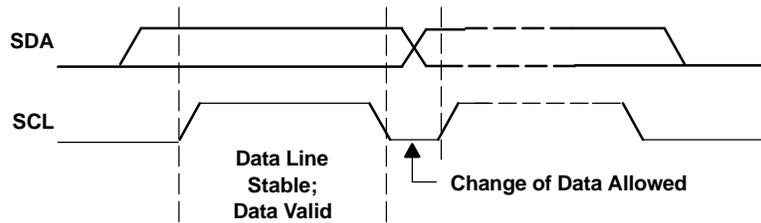
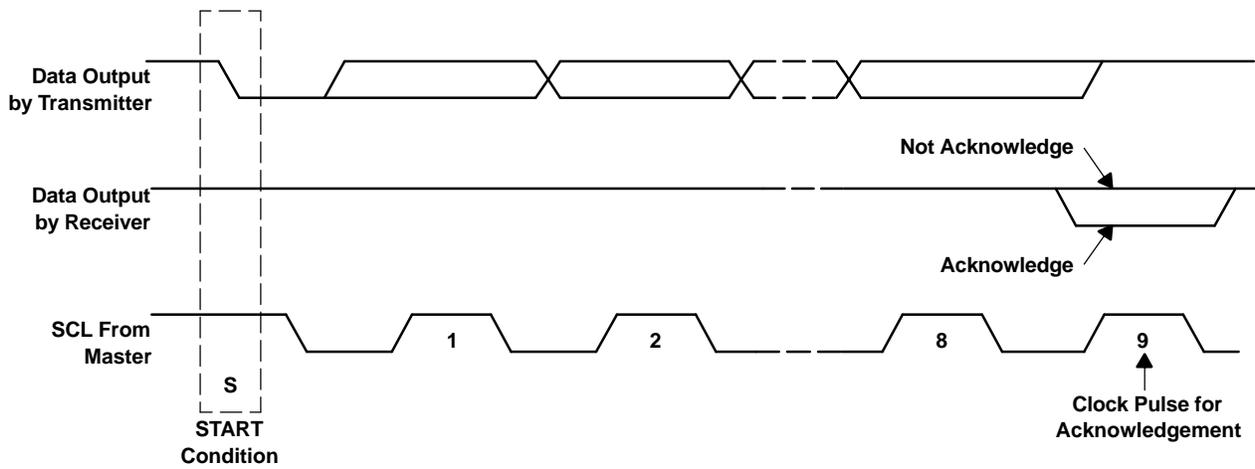

Figure 30. Bit Transfer on the I2C Bus
Figure 31. Acknowledge on the I2C Bus
- The master then generates the SCL pulses, and transmits the 7-bit address and the *read/write direction bit*  $R/\bar{W}$  on the SDA line. During all transmissions, the master ensures that data is *valid*. A *valid data condition* requires the SDA line to be stable during the entire high period of the clock pulse (see Figure 30). All devices recognize the address sent by the master and compare it to their internal fixed addresses. Only the slave device with a matching address generates an *acknowledge* (see Figure 31) by pulling the SDA line low during the entire high period of the ninth SCL cycle. Upon detecting this acknowledge, the master knows that communication link with a slave has been established.